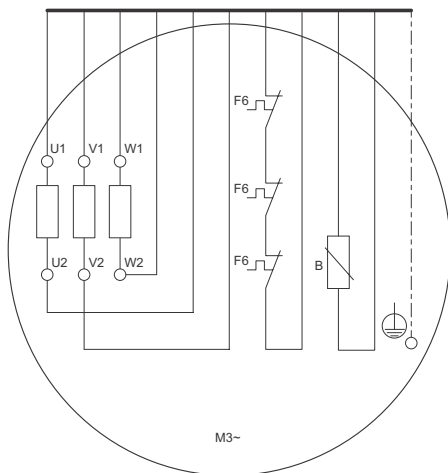
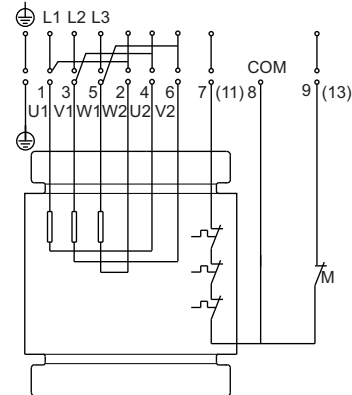

Fig. 25 Three thermal switches (PTO)
Fig. 32 SMD, 10-wire cable, PTO, moisture switch, standard version
- Standard mixers incorporate three bimetallic PTO thermal switches. See fig. 25.
See wiring diagram in fig. 25.
When the leakage relay is connected, a current of up to 10 mA flows through the leakage sensor. Terminals 5 and 7 in fig. 32 are connected to wires 21 and 22 in fig. 25. In case water penetrates into the oil chamber, the relay will trigger an alarm signal and/or switch off the motor. See fig. 25 or 26.